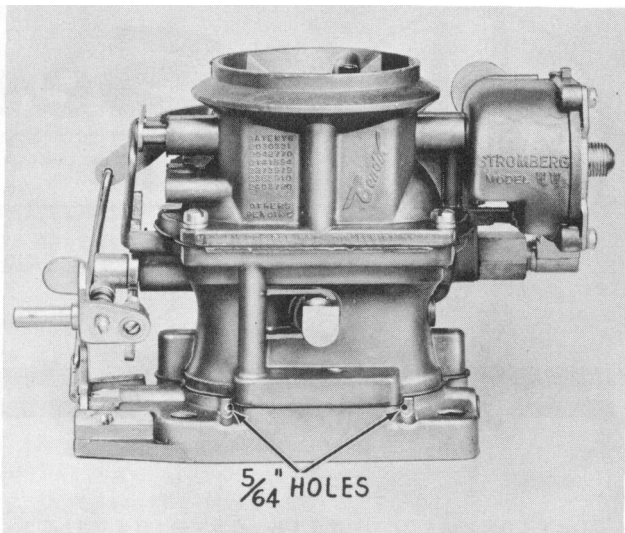
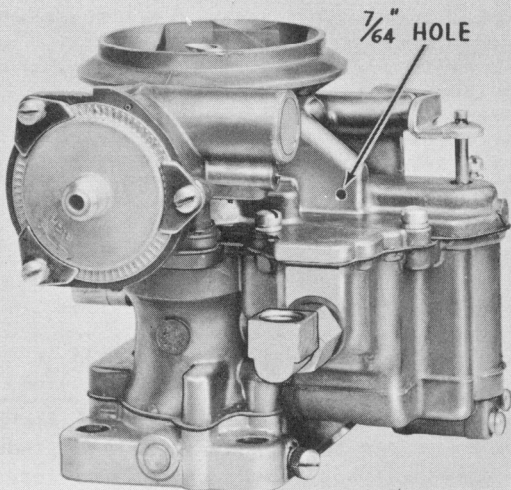

Fig. 2
Fig. 1
2. Drill a $\frac{7}{64}$ " hole into the vent passage at the location shown in Fig. 1. Then, drill two $\frac{5}{64}$ " holes in the throttle body at the locations shown in Fig. 2. It is not necessary to disassemble the carburetor to drill the holes but care should be taken to prevent chips from entering the carburetor.